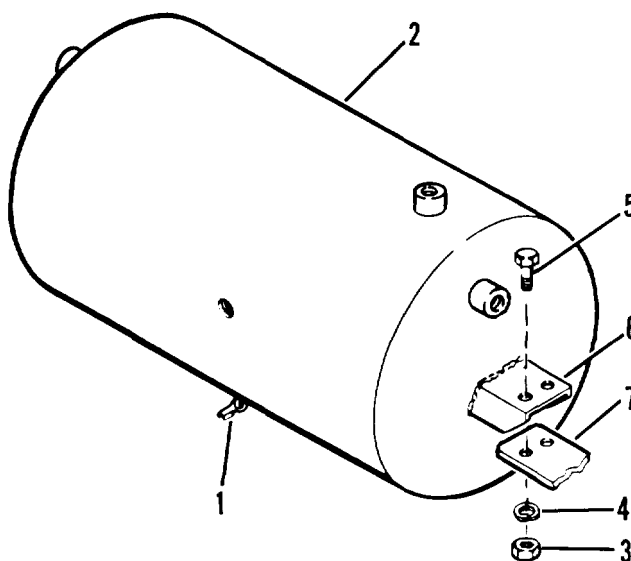

Figure 4-34. Air reservoir
- (2) Tag and disconnect all air lines connected to reservoir being removed.
- (3) Remove four nuts (3, figure 4-34), washers (4) and bolts (5) from bracket (6) (welded to air reservoir).
- (4) Remove air reservoir (2).
- (5) Remove fittings from air reservoir (2).
- (1) Install fittings on air reservoir (2, figure 4-34).
- (2) Line up holes in air reservoir brackets (6) with holes in frame (7).
- (3) Secure air reservoir (2) with four bolts (5), washers (4) and nuts (3).
- (4) Install all air lines.
- (5) Install emergency relay valve (para. 4-38).